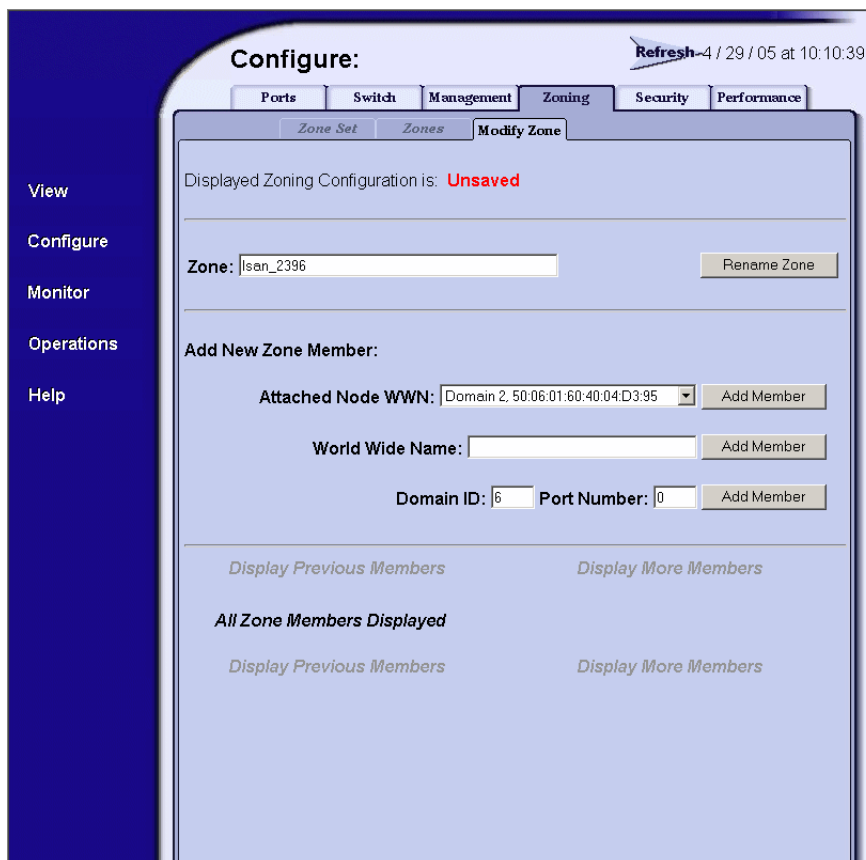

Figure 9 Modify Zone tab
- In SAN Pilot, click **Add New Zone** and then select the new zone to display the **Modify Zone** tab (see Figure 9). Add the desired devices to the zone.